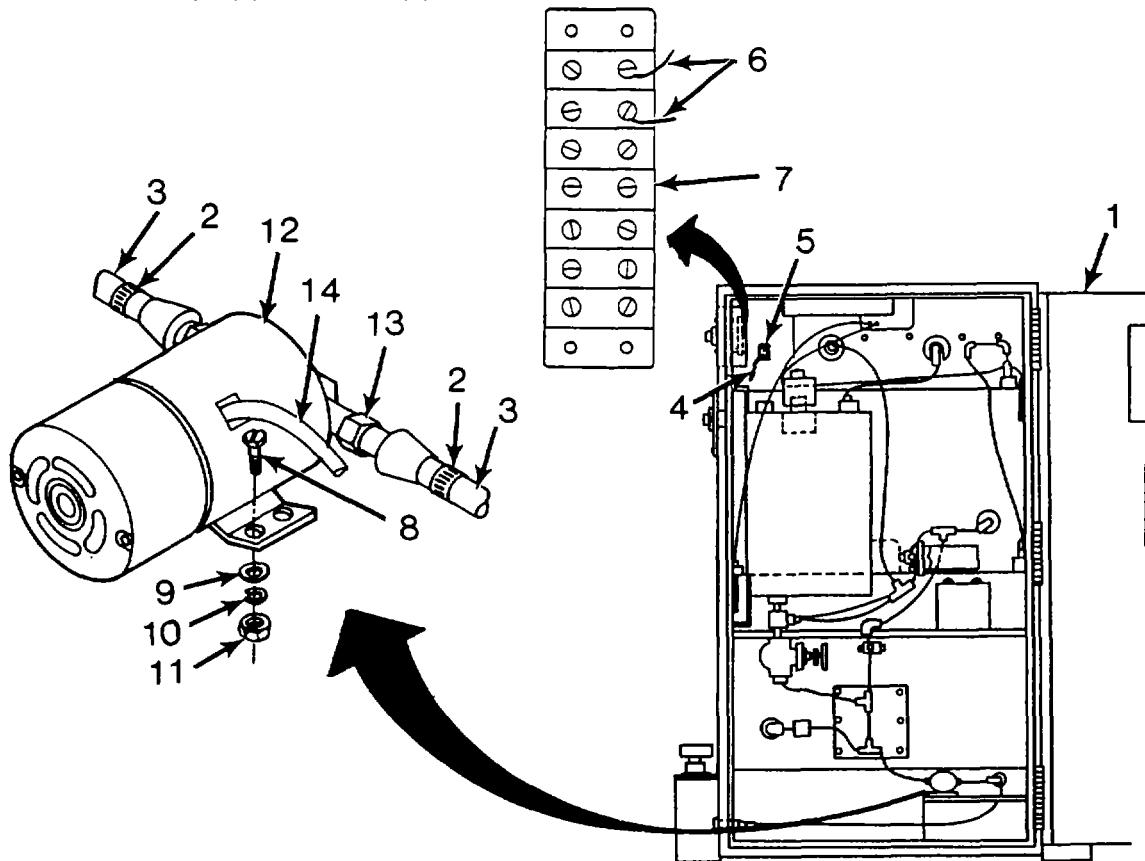

Figure 4-20. Replace Drain Pump
- c. Repair by replacing Drain Pump. (Figure 4-20.)